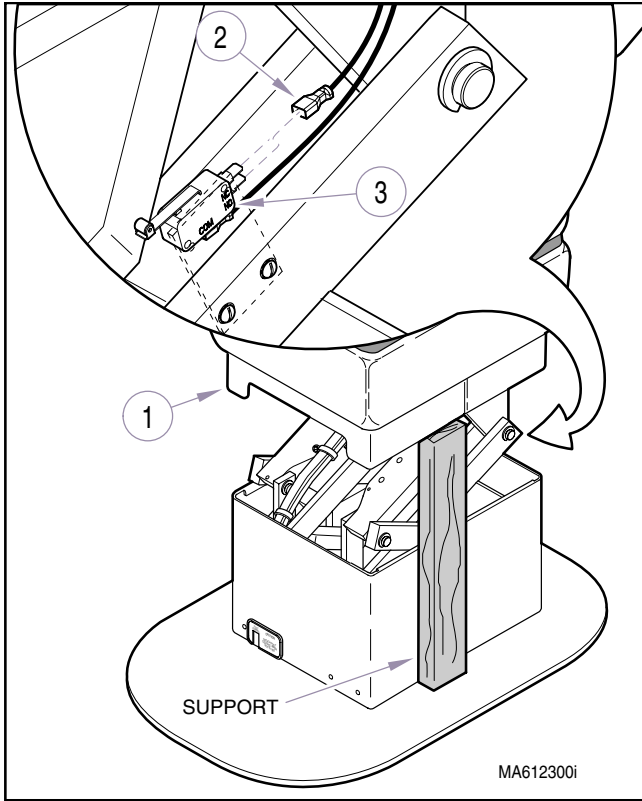
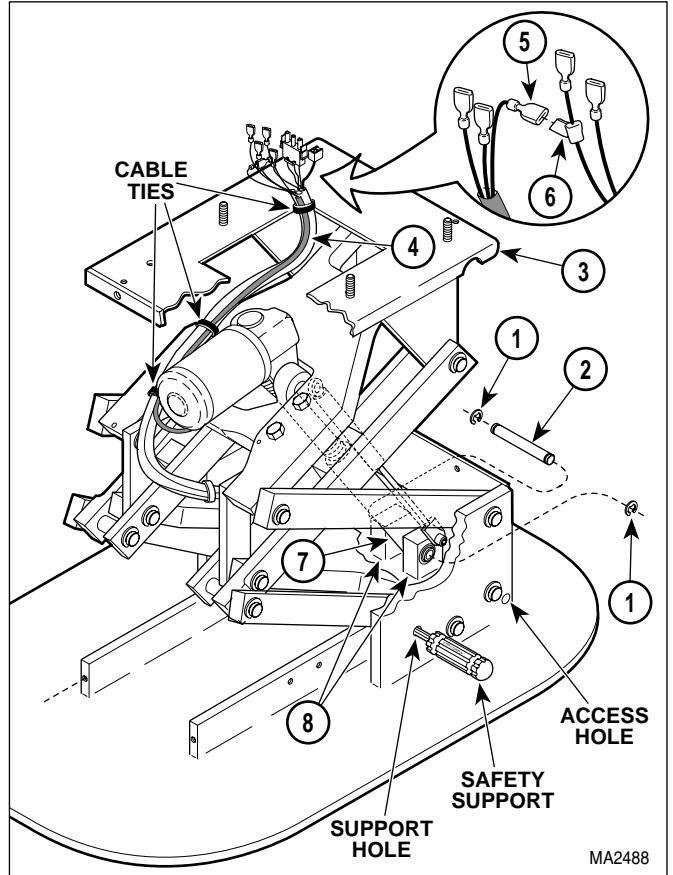

Figure 4-12. Base Up Limit Switch
Figure 4-13. Base Actuator Assembly Disconnection/Connection
- (1) If possible, raise TABLE UP function all the way up.
- (2) Lift & support middle shrouds (1, Figure 4-12).
- (3) Move wire (2) from **N.C.** terminal of base up limit switch (3) to **N.O.** terminal as shown.
- (4) Depress Base Up foot pedal. *[Table should raise slightly, then stop].*
- (5) Remove table top (Refer to para 4.3).
- (6) Remove shrouds (Refer to para 4.4).
- (7) Remove two e-rings (1, Figure 4-13) from clevis pin (2).
(2) Coat threads of two shoulder screws (10) with removable threadlocking adhesive (Loctite 242).
(7) Remove safety supports from support holes. See Figure 4-13.
- (8) Push base subassembly (3, Figure 4-13) downward until base actuator assembly (7) is aligned with brackets (8); then secure base actuator assembly in position with clevis pin (2) and two e-rings (1).
- (9) Connect wire (5) to wire tap (6), if unit has base down limit switch.
- (10) Secure base actuator wire harness (4) to other wire harnesses with cable ties.
- (11) Move wire (2, Figure 4-12) from **N.O.** terminal of base wup limit switch (3) to **N.C.** terminal.
- (12) Install shrouds (Refer to para 4.4).
- (13) Install table top (Refer to para 4.3).
- (14) Plug power cord into wall outlet.